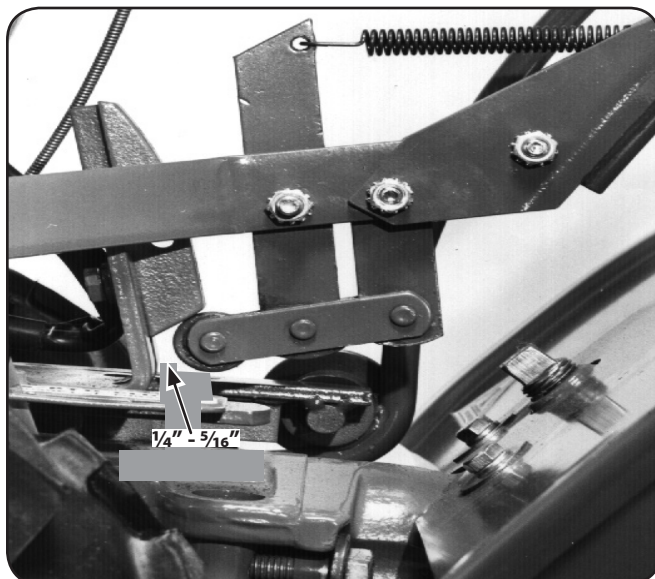

Figure 6-13
- Move the Wheels/Tines/PTO Drive Lever fully down to the FORWARD position. The clutch roller at the bottom of the lever should be positioned underneath the belt adjustment block. See Fig. 6-13. Don't let the clutch roller move during the next few steps. If it moves, you'll get a false belt tension reading.
- The belt tension is correct if the front of the clutch roller is $\frac{1}{4}$ "-to- $\frac{5}{16}$ " away from the face of the upright bracket that holds the adjustment block in place. See Fig. 6-13. To measure this distance: